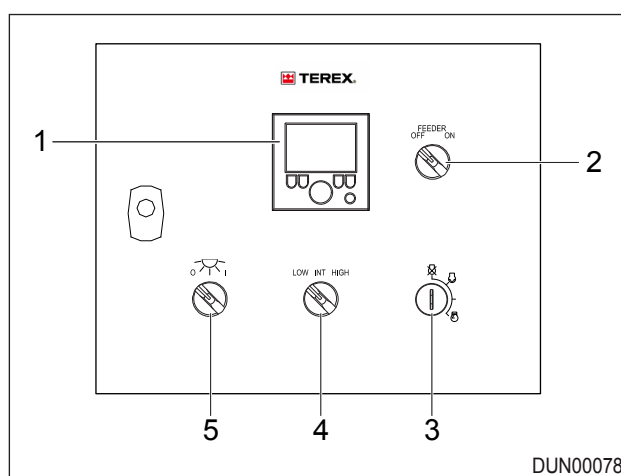

Figure 7.1 - Control Panel
1. Switch the engine speed switch (item 4) to low, Ref: Figure 7.1.